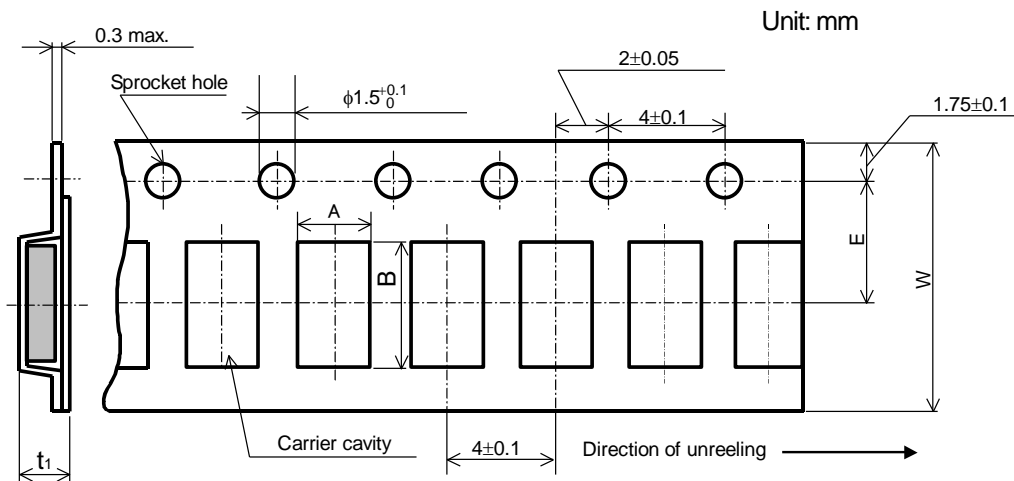

Figure-4
8.2.2 Embossed taping dimensions shall be in accordance with Figure-4 and Table-7.